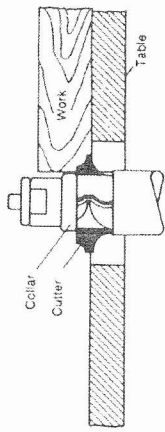

Fig. 15
2. Using the collar above the cutter, figure 15, offers the advantage of the cut not being affected by slight variations in the stock's thickness. However, the cut is not visible during the operation. Another advantage is accidental lifting of the work piece will not gouge the work piece. Simply correct the mistake by repeating the operation.